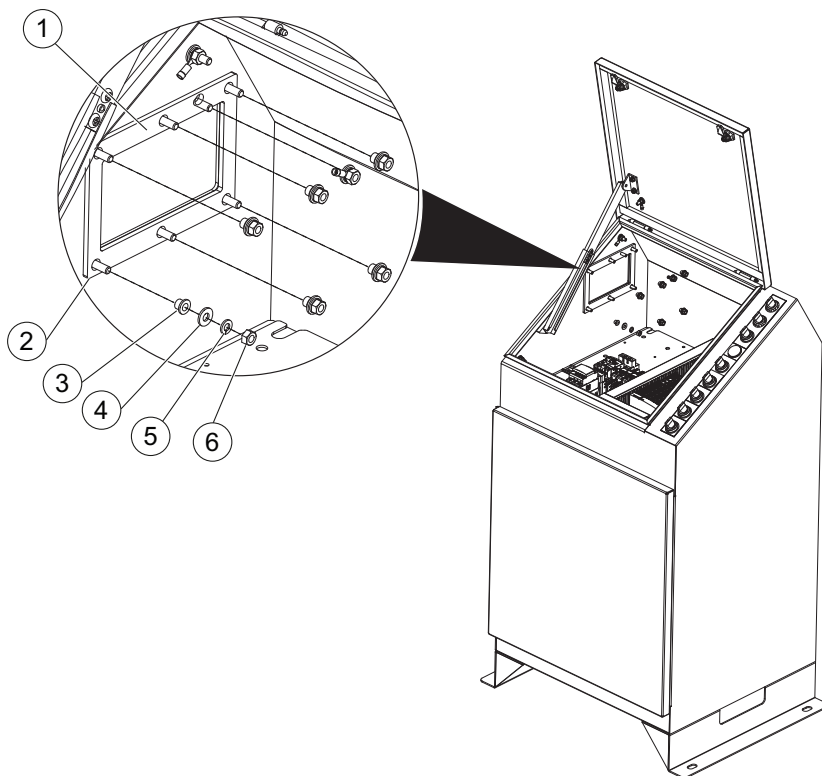

Figure 8 HSC - Gland Plate Assembly
2. Remove gland plate to be drilled on site, noting the orientation of the plastic washers (Figure 8).
5. Reinstall gland plate, torque nuts noting orientation of plastic washers (Figure 8).